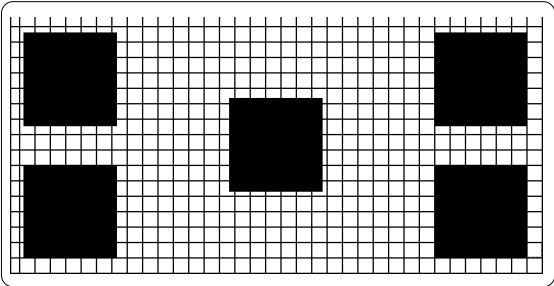

Fig. 9s Test Grid
5. The pattern shown in figure 9s will be printed. The printout will repeat about every 5 seconds making it possible to make adjustments on the printer between the individual printouts.